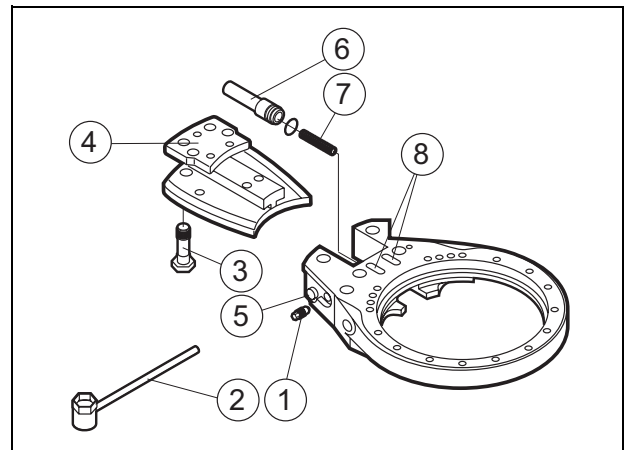

Fig. 43 Replacing saw chain
2. Depressurise the automatic chain tensioner by loosening the bleed screw (1) approx. 1 turn. Apply the tool (2) on the front guide screw (3) and push the holder (4) backwards. *See Fig. 43.*
3. Press in the mechanical locking device (5).
4. Tighten the bleed screw (1).